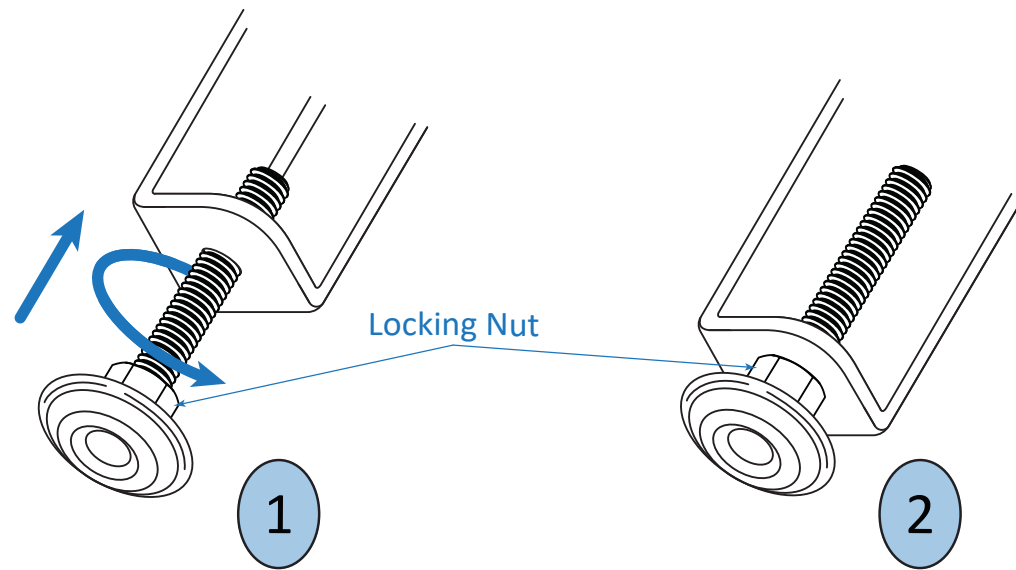

Figure 1-4. Preparing a leg for installation.
4) Locate the game's four legs; remove their packing material. Prepare each leg as shown in figure 1-4: **1** Thread the locking nut all the way down, next to the foot of the leveler. **2** Hand thread the leveler/nut into each leg until the locking nut is against the base of the leg. With the cabinet set up on a perfectly level surface, this should provide a playfield pitch of approximately 6.5°, front-to-back.